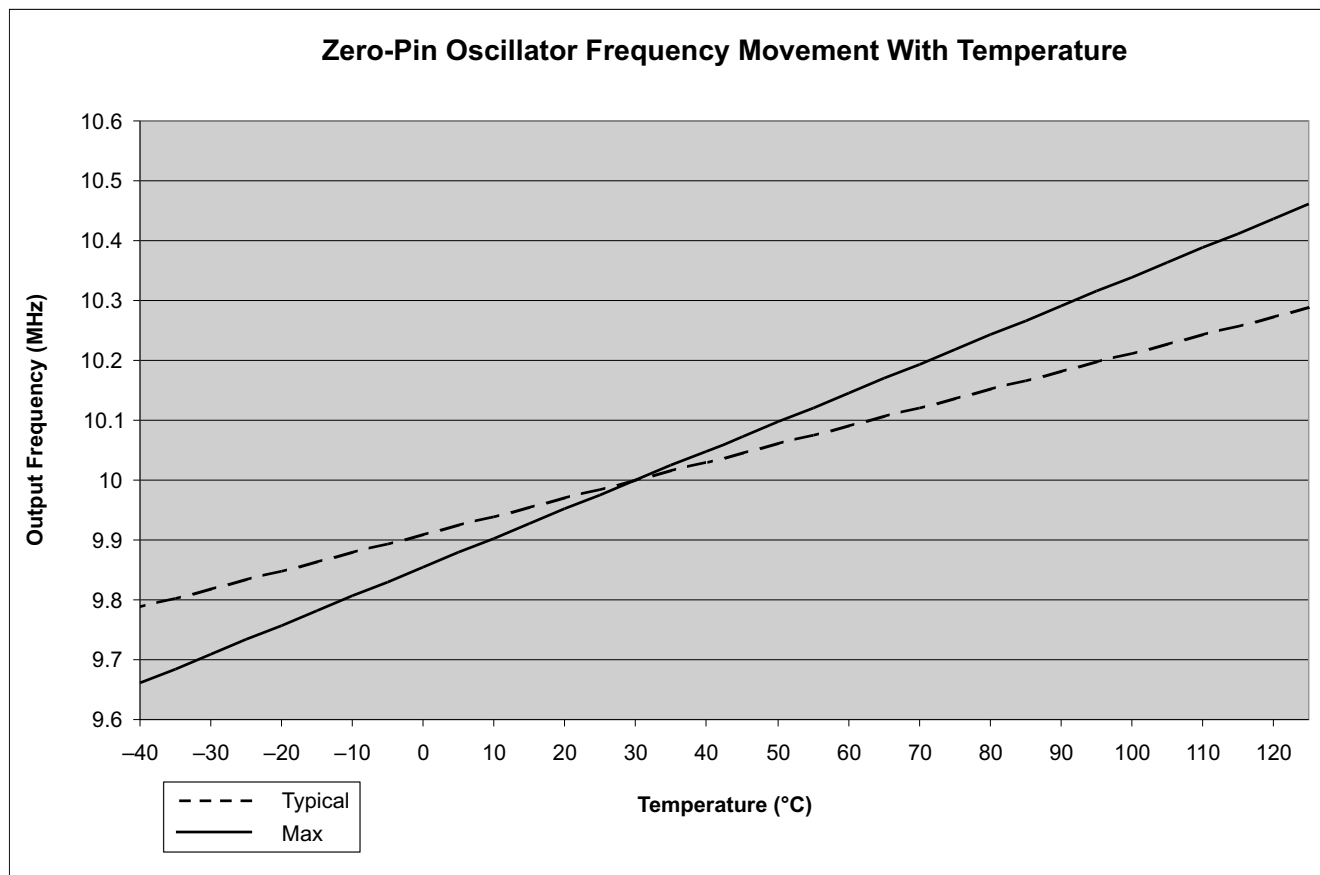

Figure 6-9. Zero-Pin Oscillator Frequency Movement With Temperature
- (1) Oscillator frequency will vary over temperature, see Figure 6-9. To compensate for oscillator temperature drift, see the Oscillator Compensation Guide and C2000Ware.
- (2) Frequency range ensured only when VREG is enabled, $\overline{\text{VREG}} = V_{SS}$.
- (3) Output frequency of the internal oscillators follows the direction of both the temperature gradient and voltage (V_{DD}) gradient. For example: